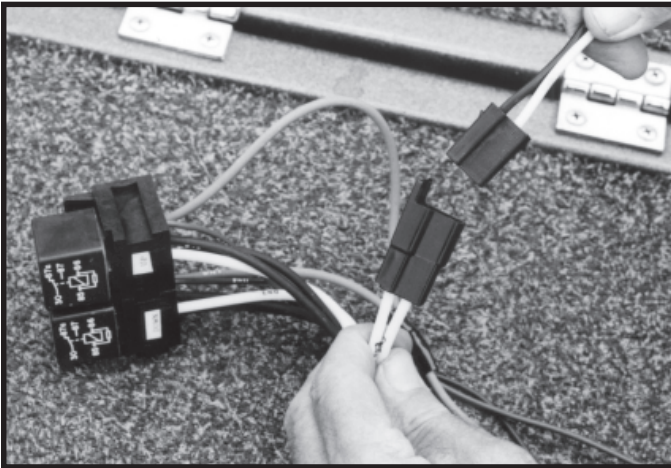

FIG. 18
Step 11: Connect the 2-wire male connector from the hydraulic power unit to the female 2-wire connector at the end of the wire assembly. (Fig. 18)